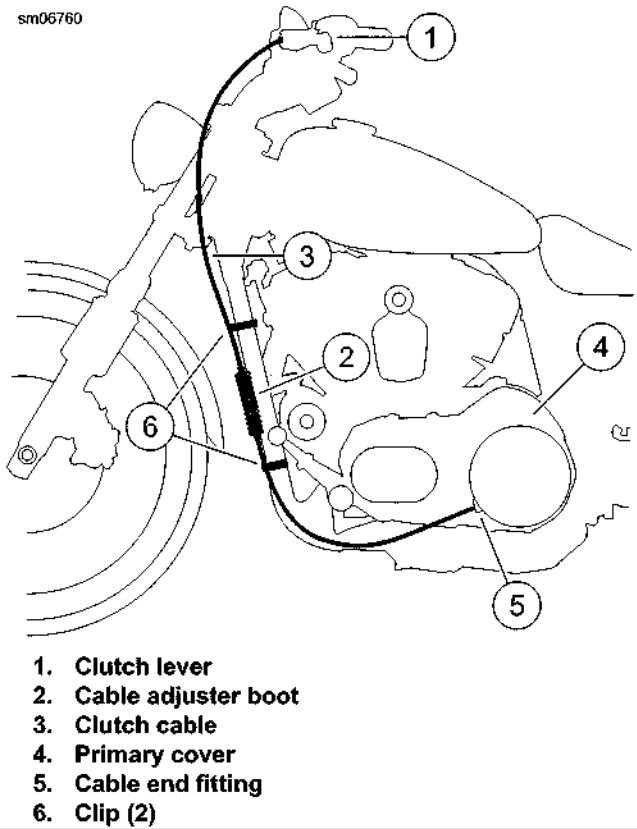

Figure 2-127. Clutch Cable Routing: XL Models
1. See Figure 2-127. Route clutch cable (3):
- a. Forward from clutch lever (1).
- d. Through two clips (6) on left front frame downtube.
- e. Rearward to primary cover (4).